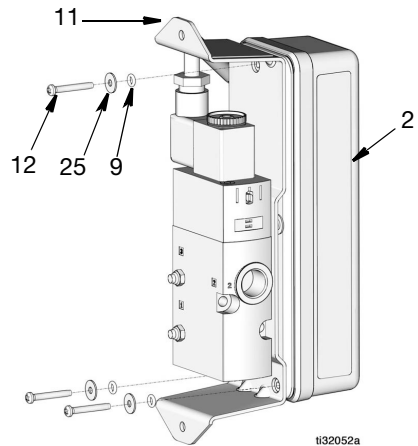

FIG. 26
5. Remove three screws (12), washers (25) and o-rings (9) securing PAC bracket (11) to enclosure (2) (FIG. 26).